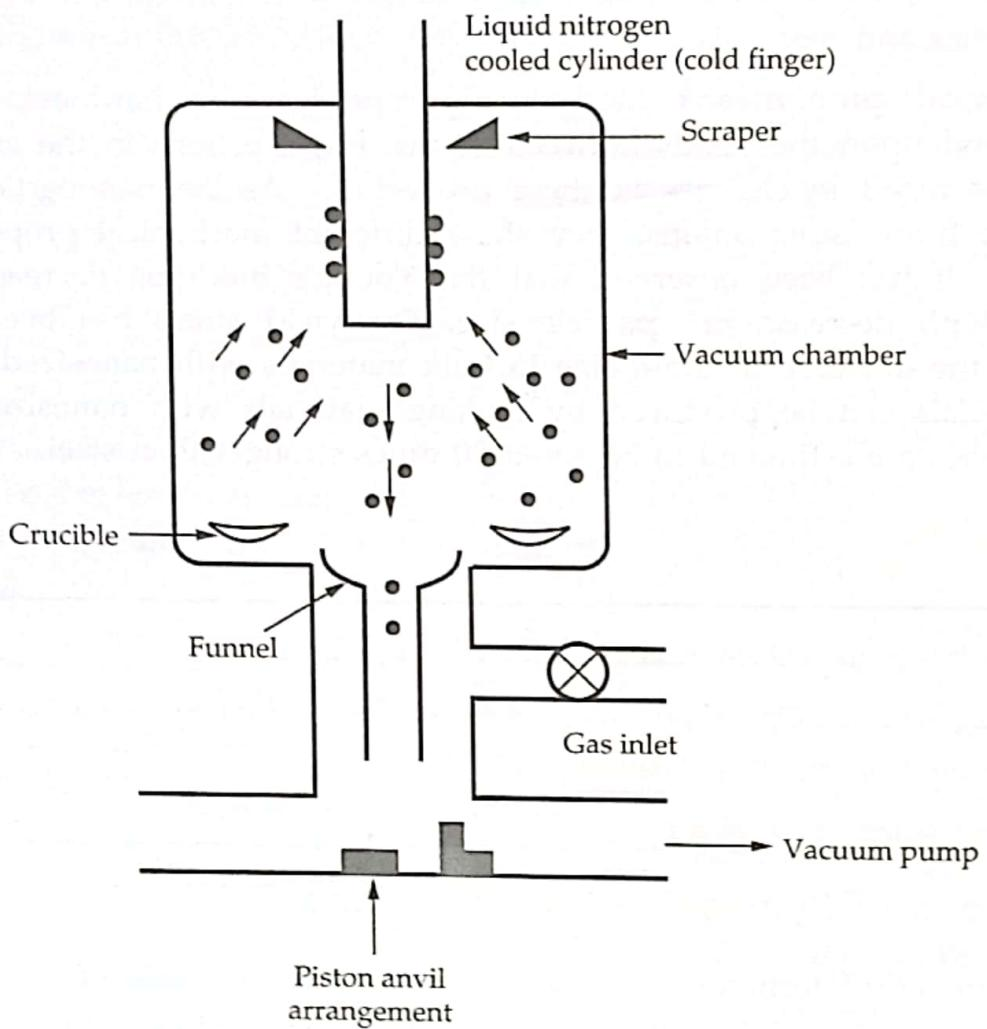

Fig. 10.4.1
2) Vapour deposition method : In this method the material is evaporated and blown towards a cold finger (a cool cylinder) where the particles are deposited. The set-up is shown in Fig. 10.4.1.